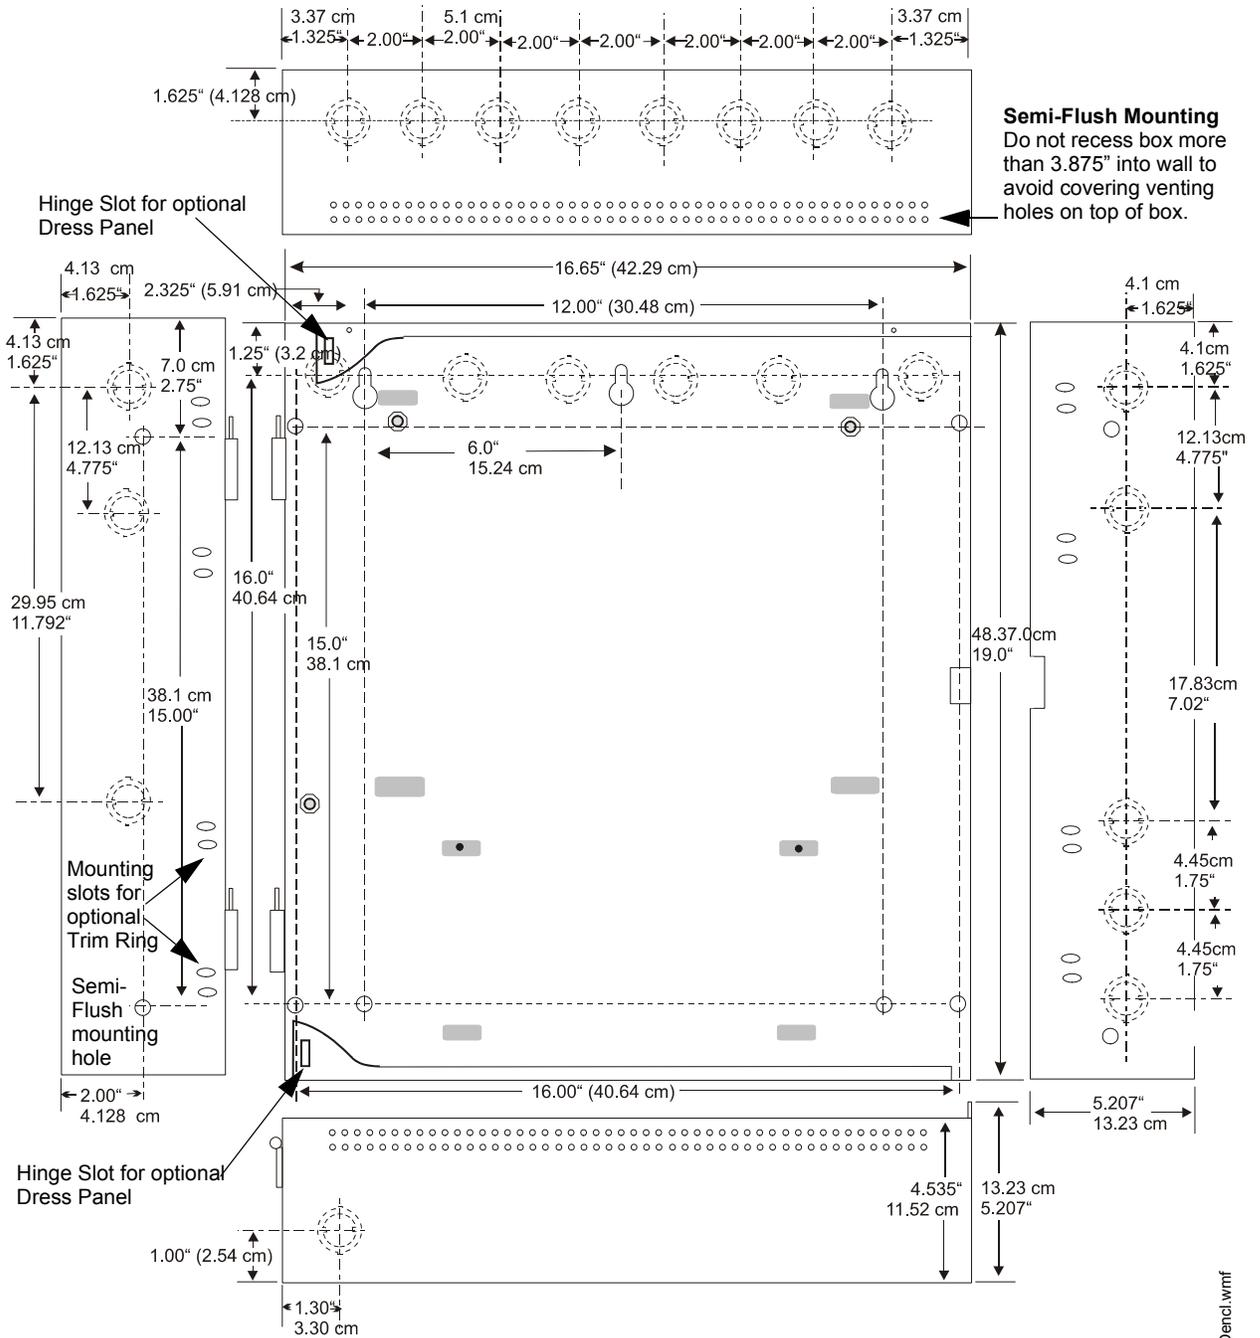

Figure 2.2 Cabinet Dimensions
1. Mark and predrill hole in the wall for the center top keyhole mounting bolt using the dimensions illustrated in Figure 2.2 on page 21.